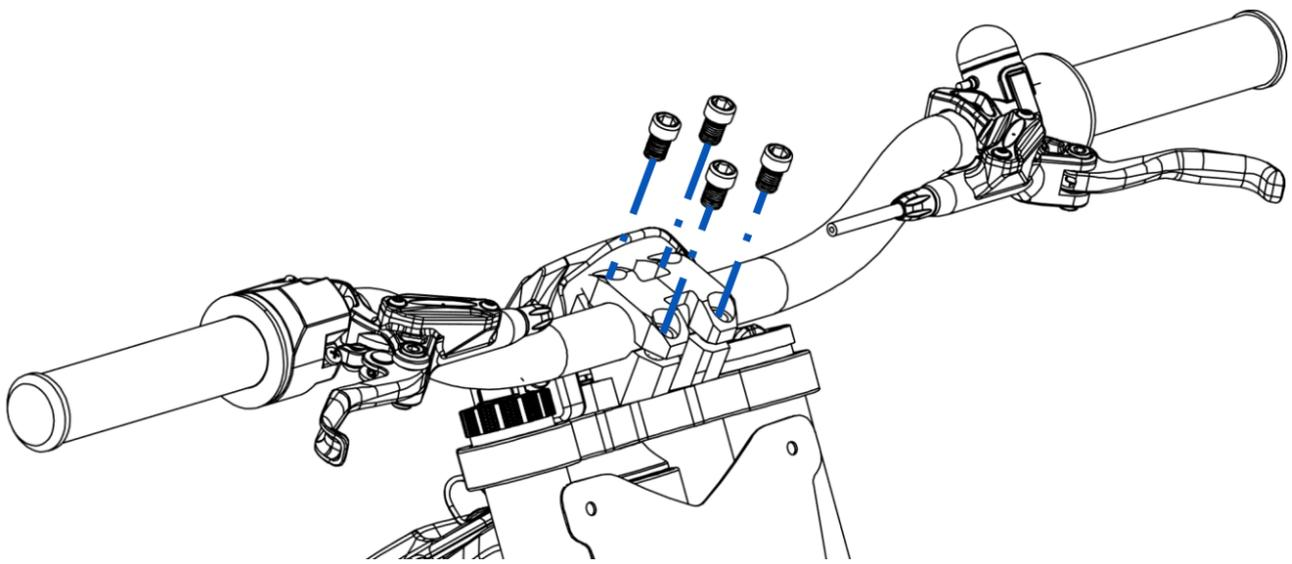
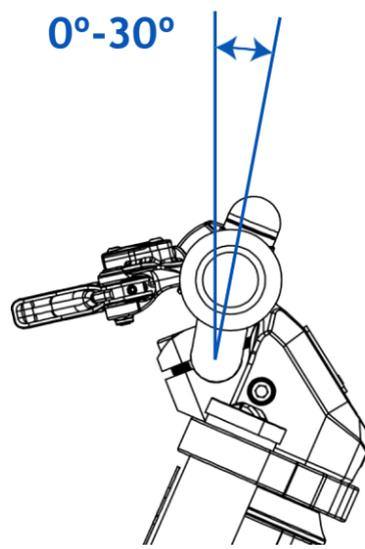

Fig. 7
Fig. 10
9. Next, the handlebar must be adjusted to the specific angle between 0° and 30° (Fig. 10), with which the rider feels comfortable. Always in contact with the upper plate. And secure it with the same four M6 Allen screws (Fig. 7) above, with a torque of 1 Kgf.m.